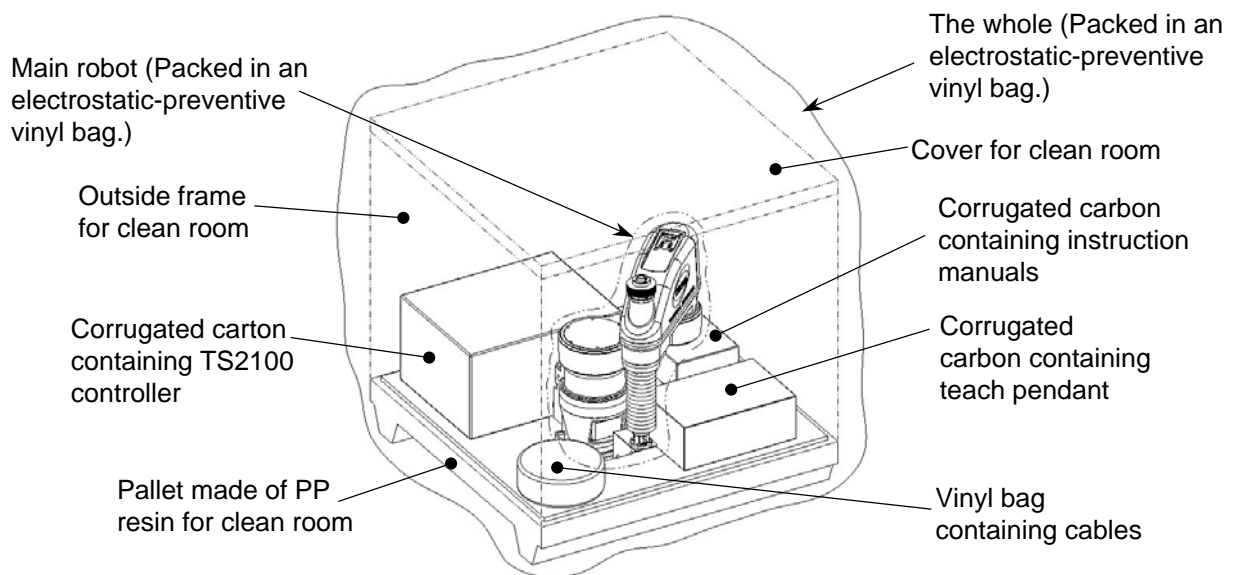

Fig. 2.1 Clean package condition
The clean package condition is shown in Fig. 2.1.
- Carry the shipment in a condition shown in Fig. 2.1 to the room just before the clean room, using a forklift truck, etc.